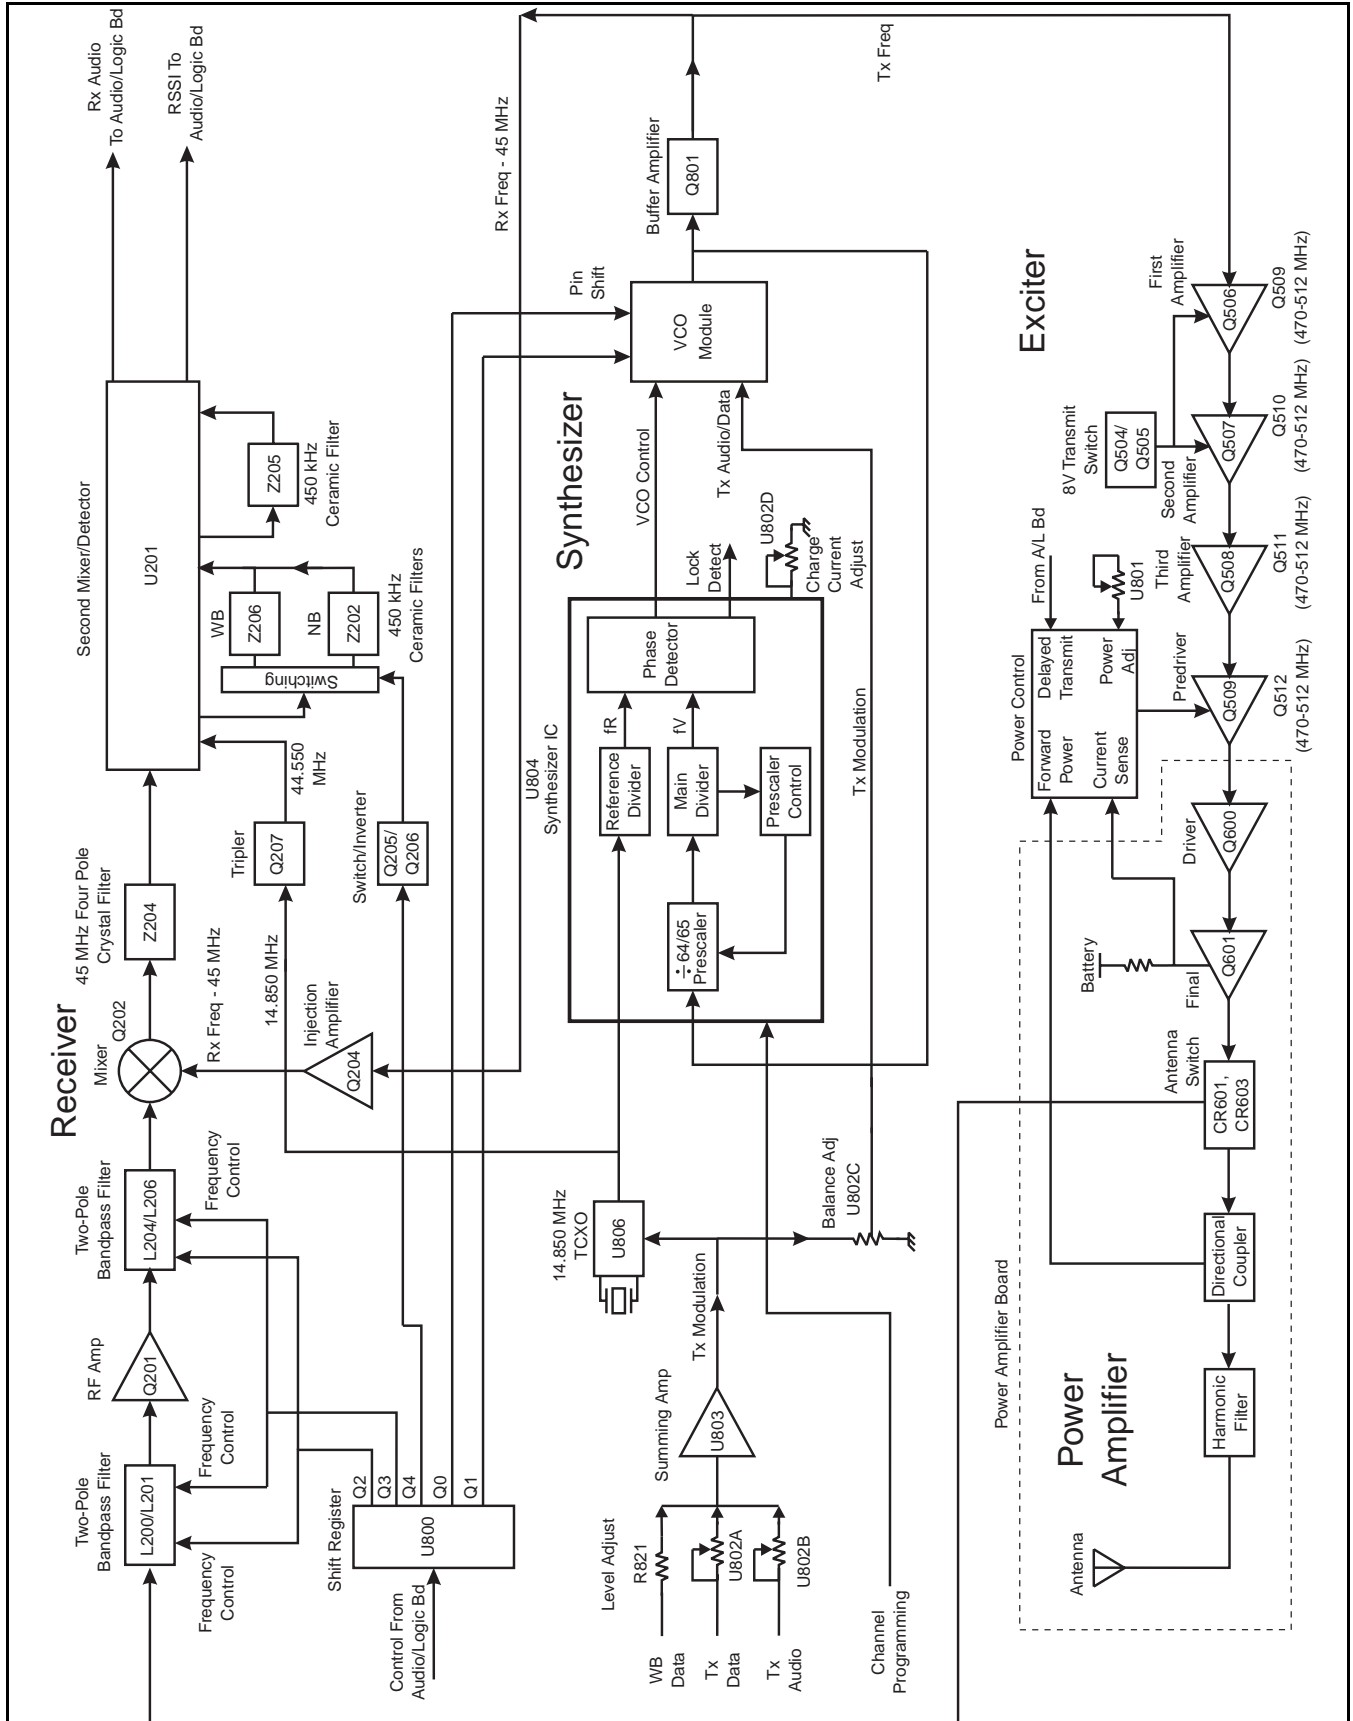

Figure 5-4 RF Block Diagram (UHF Models)
The synthesizer block diagram is part of the RF/PA board diagram shown in Figure 5-4. The synthesizer output signal is produced by a VCO (Voltage Controlled Oscillator) located in a separate module attached to the RF board. The frequency of the VCO is controlled by a DC voltage from the phase detector in synthesizer integrated circuit U804.
The levels of the audio and data signals are set by digitally controlled variable resistors in U802. These resistors are adjusted in 256 steps by serial data from the microcontroller (see Section 5.3.1). The transmit audio signal is applied to pins 2 and 4 which are the wiper and one leg of a potentiometer. It is fed out on pin 3 which is the other leg of the potentiometer (see Figure 5-4). Likewise, the data signal is fed in on pins 22 and 24 and out on pin 23.
*NOTE: The receiver block diagram is shown in Figure 5-4.*
*NOTE: A transmitter block diagram is in Figure 5-4.*